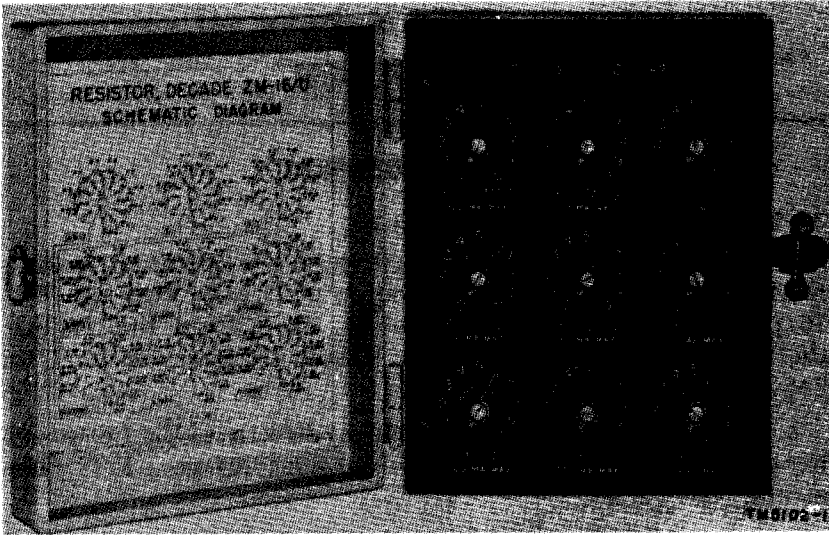
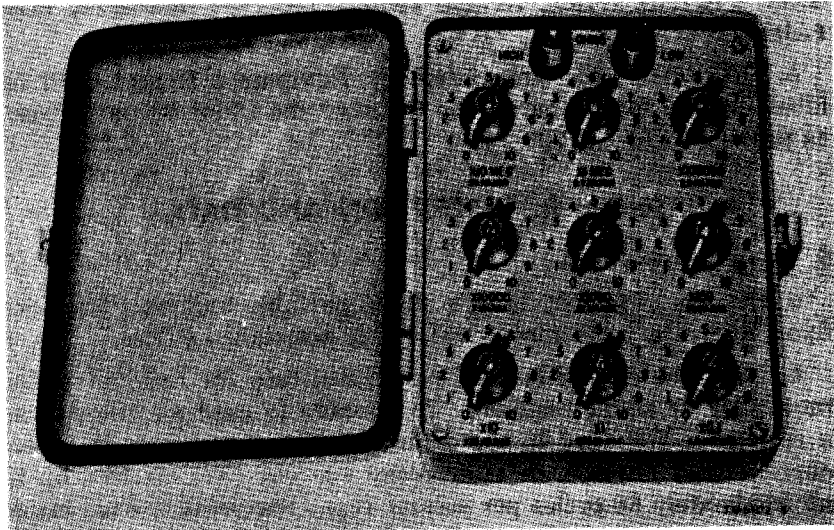

Figure 1. Decade Resistor ZM-16/U.
Figure 2. Decade Resistor ZM-16A/U.
a. This manual contains information on the operation, maintenance, repair, and theory of operation of Decade Resistors ZM-16/U and ZM-16A/U (figs. 1 and 2). Throughout this manual, the word decade refers to either Decade Resistor ZM-16/U or ZM-16A/U or both.
a. Panel and Case. The ZM-16/U (fig. 1) is housed in an aluminum, waterproof case with a removable cover. The ZM-16A/U (fig. 2) has a plastic case. Nine decade switches and two binding